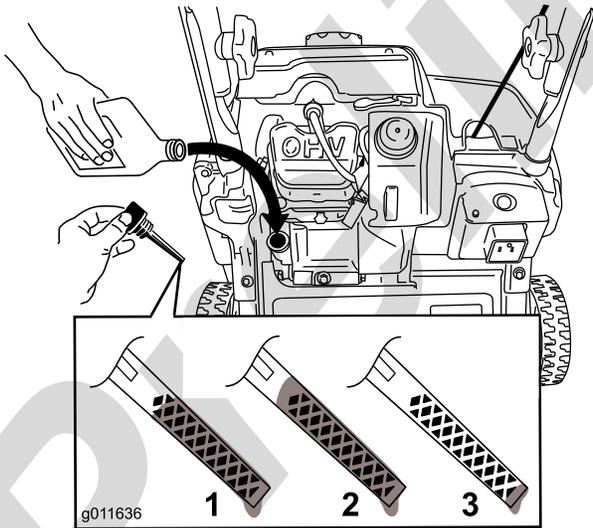

Figure 8
2. Clean around the oil fill cap (Figure 8).
**Note:** To determine the proper oil level on the dipstick, refer to Figure 8.
**Note:** Fill the engine crankcase with oil until the dipstick indicates that the engine oil level is correct as shown in Figure 8. If you overfill the engine with oil, remove the excess oil as directed in Changing the Engine Oil.